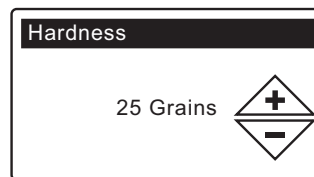

FIG. 16
7. **HARDNESS** Press the UP (▲) or DOWN (▼) buttons to set the value of your water's hardness (See Figure 16).
8. Press the SELECT (O) button.